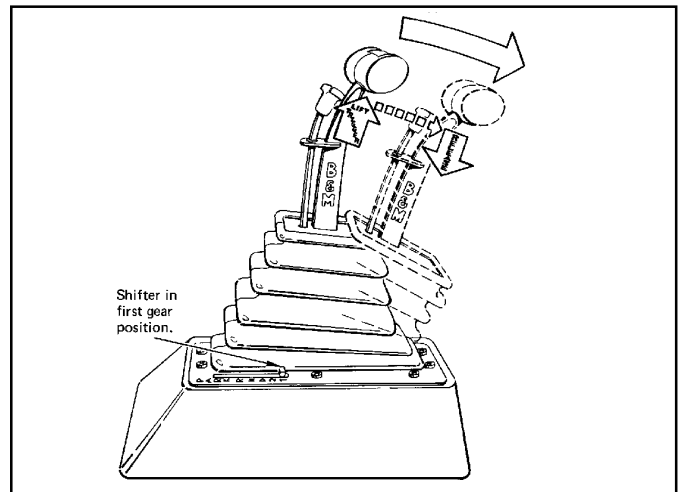

Figure 12
**Ratchet Shift Mode:** The ratchet shift mode allows firm, positive, no-miss upshifts from First to Second and Second to Third. It is impossible to miss a gear, overshift or accidentally downshift the transmission in the ratchet shift mode. To shift from vertical gate to ratchet shift operation, move the stick to the First gear position. Raise the trigger and pull the stick all the way back until it stops. Then release the trigger. The shifter is now in first gear of the ratchet shift mode (See Figure 12).
If these instructions for operating the shifter seem complicated, do not be alarmed. You will find that, in actual use, the shifter will be extremely easy to operate after a minimal amount of experience. (See Figures 12, 13 and 14.)